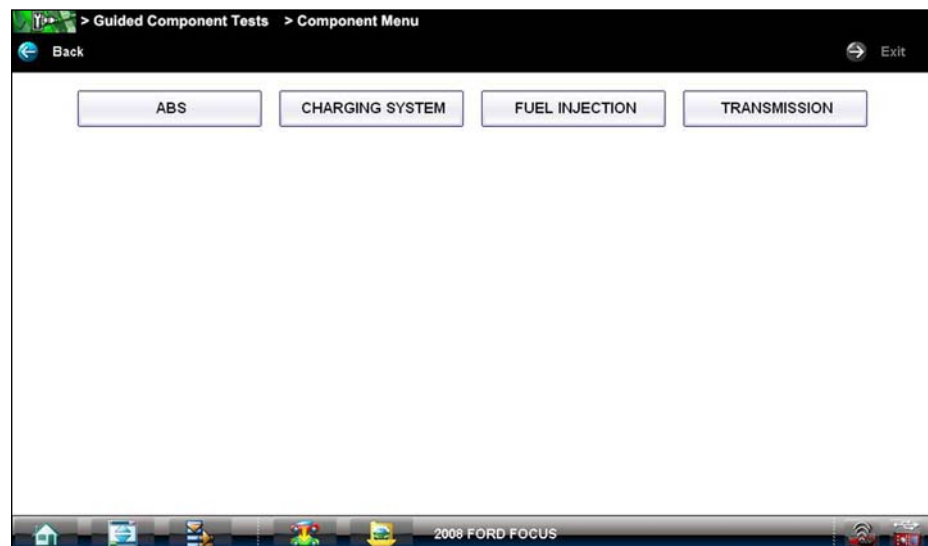

Figure 6-4 Sample available tests list
7. From the confirmation dialog box, select **OK** to continue, or **Cancel** to return to the engine list. A list of tests available for the identified vehicle displays (Figure 6-4).